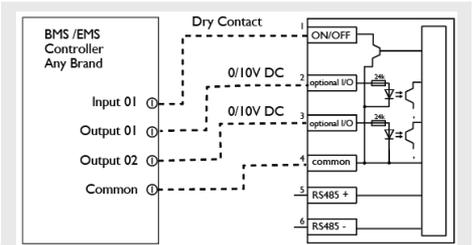

FIGURE 6
- BMS On/Off Command (Optional I/O Pin 3)**, See Figure 6. When On, the unit will stop operating. The control point accepts a binary command.